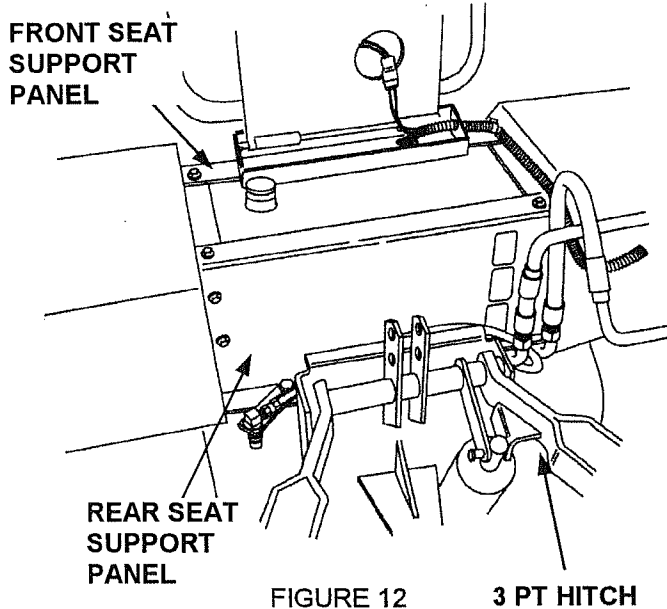

FIGURE 12
1. (See figure 12) Raise rear of loader. Support loader with jack stands under rear axles.